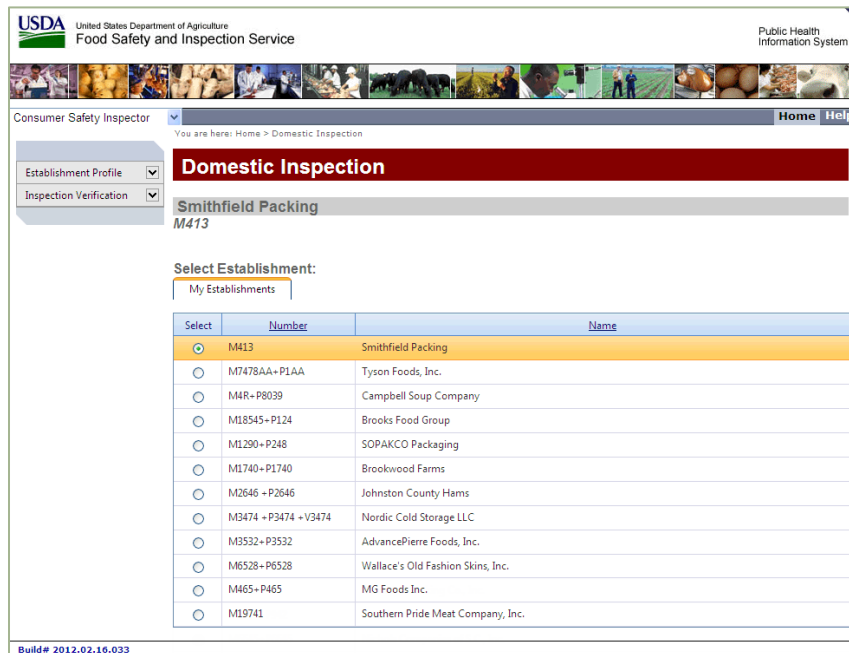

Figure 6: Select Establishment Window
2. When you use the PHIS Disconnected State application as a CSI, you have two options available from the left Navigation menu: Establishment Profile and Inspection Verification (see Figure 6).